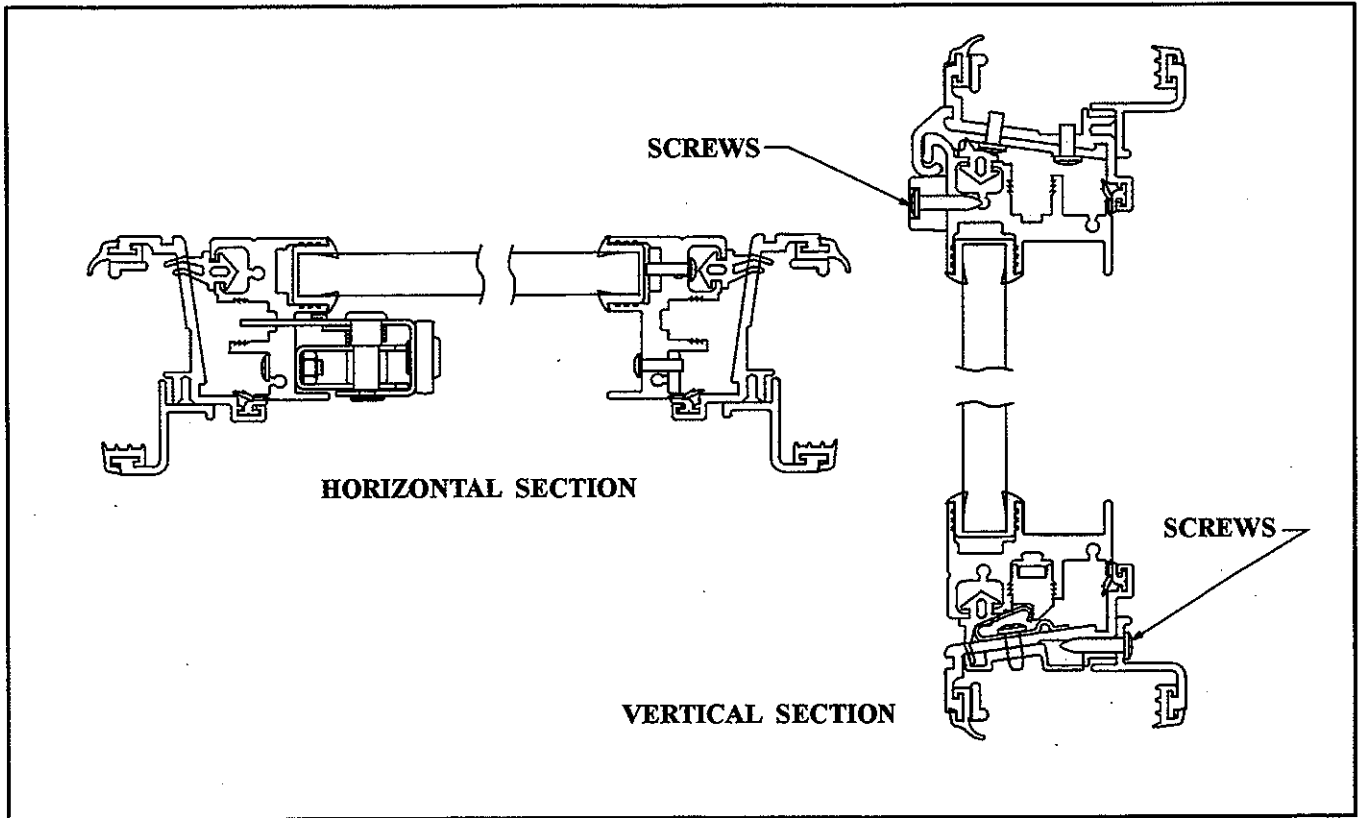

Figure 1—Transit Egress Window
1. Release window lever located inside the bus at the side of each push-out window. (See Figure 1—Transit Egress Window.)